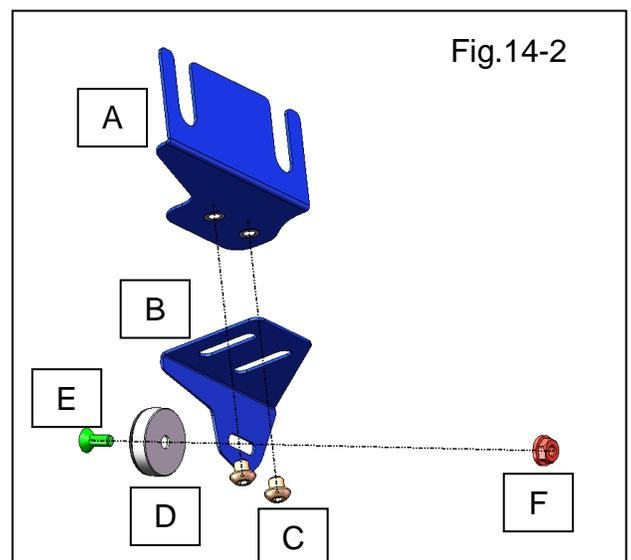

Fig.14-2
Tip: It is easier if you put together the parts required as shown here (Fig.14-2) before fastening to the bike. The main bracket (A) is attached to the adjustment bracket (B) using (2) ¼-20 x 0.25”L screws and washers(C). The magnet (D) can then be fasten using the #10-32 x 0.500”L flat head screw(E) and nut(F).